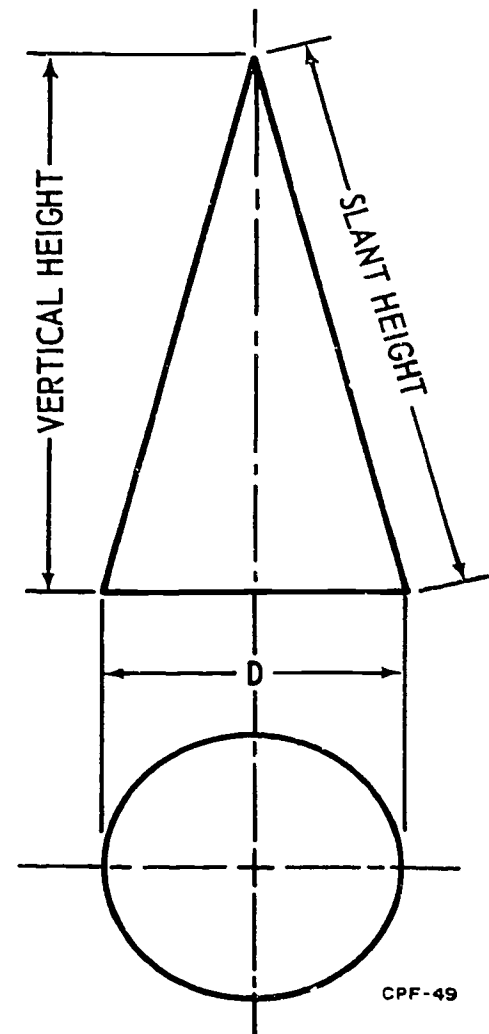

Figure 1-2. Orthographic projections of a cone.
Curved surfaces do not always look curved in an orthographic projection because you are looking at the top, bottom, or side of an object 90° to the surface. In a pictorial drawing, you can see that the edges are curved; but in an orthographic projection, you see the surface broadside, and it appears flat. The example shown in figure 1-2 is a top-view orthographic drawing of a cone. Although you know that the side of a cone is curved, you cannot see the curvature in the drawing. However, from the accompanying plan view, you can see that the base of the elevation view is circular. It is a good idea to keep in mind that lines in orthographic projections are not curved but may indicate a curved surface, and it is up to you to determine the curvature from one of the other views.
**Geometric solids.** On working drawings, the diameter for a sphere usually is given on the view that is most convenient. The two necessary dimensions for a cylinder—length and diameter—can be shown on one view. Often, one view of a cone is used to indicate the diameter and height, although it is better to have two views, as shown in figure 1-2. Two views also are desirable for working drawings, showing the dimensions of a pyramid. These dimensions—vertical, height, slant height, width,